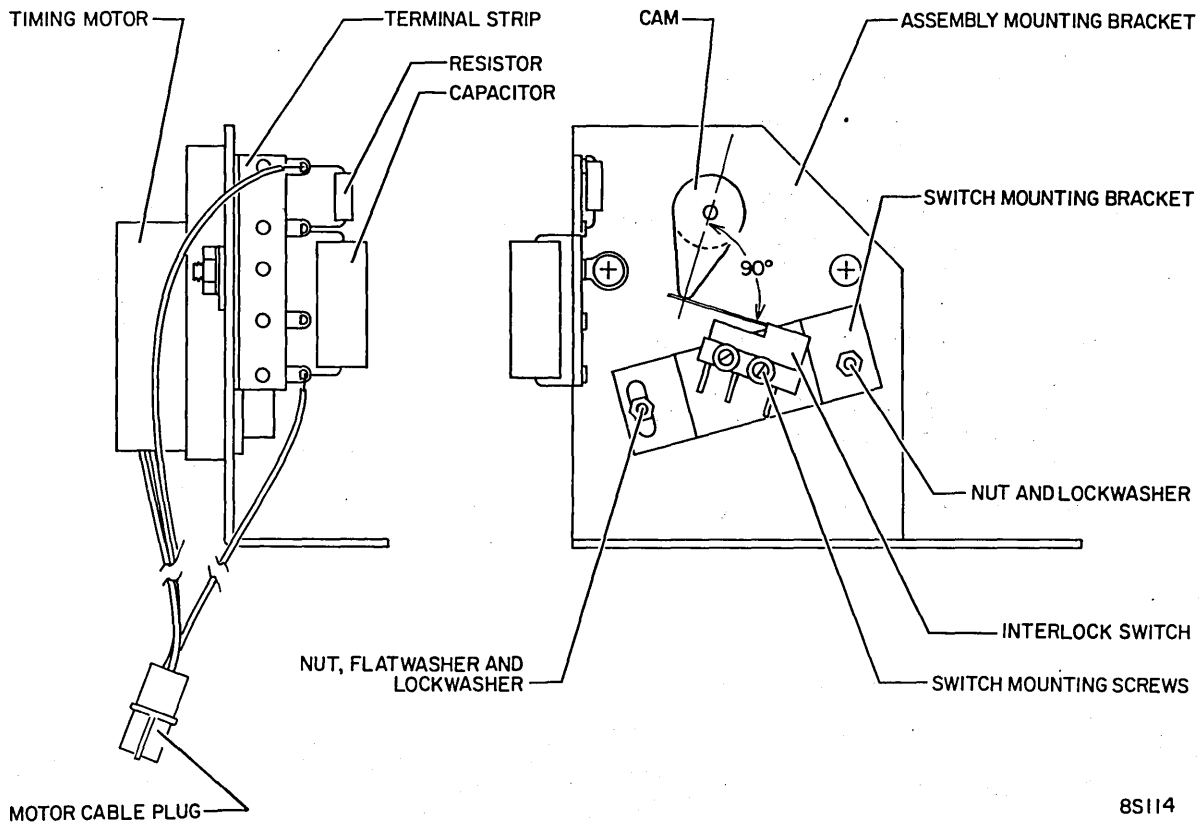

Figure 3-24. Timing Motor/Switch Replacement
5. Install cam on motor shaft as shown in Figure 3-24. Adjust cam on shaft to get maximum contact with switch actuator arm. Tighten setscrews in cam.
3. Remove two screws, washers, and nuts securing the timing motor (and 4-lug terminal strip) to the mounting bracket (Figure 3-24). Remove motor and terminal strip.
4. Install replacement timing motor and terminal strip on mounting bracket as shown in Figure 3-24. Secure motor and terminal strip using two screws, washers, and nuts.
6. Using a needlenose pliers, bend capacitor leads on terminal strip as shown in Figure 3-24.
3. Using a number 4 nutdriver, loosen the two nuts securing switch mounting bracket (Figure 3-24) to assembly bracket.
4. Adjust switch mounting bracket so the switch activates when the timing motor cam is tangent with the switch actuator arm (Figure 3-24). Tighten the left nut (nut that is on adjustment slot in bracket) first, then tighten right nut.
5. Position replacement switch on switch mounting bracket as shown in Figure 3-24. Secure switch using two screws and washers.